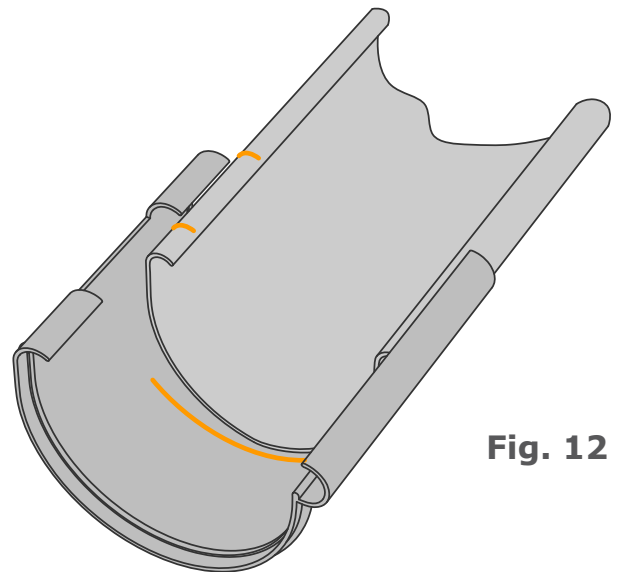

Fig. 12
8. Mark the notch positions on gutter ends as follows (Fig 12):